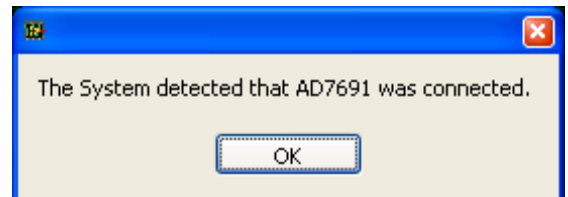

Figure 15. Software Detects Evaluation Board
3. When evaluation board is detected, Figure 15 displays. Click **OK** to continue.